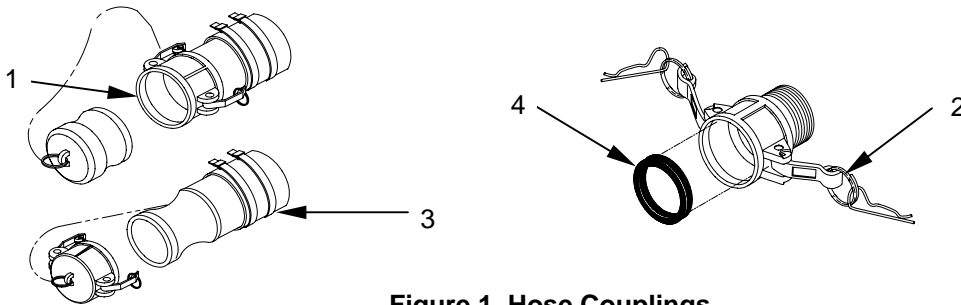

Figure 1. Hose Couplings
3. Inspect hose couplings (**figure 1, item 1**) for damage such as dents and missing or broken lock arms (**figure 1, item 2**). Check hose clamps (**figure 1, item 3**) for secure attachment to the hose. Check for presence and condition of gaskets (**figure 1, item 4**) in female QD coupling half.